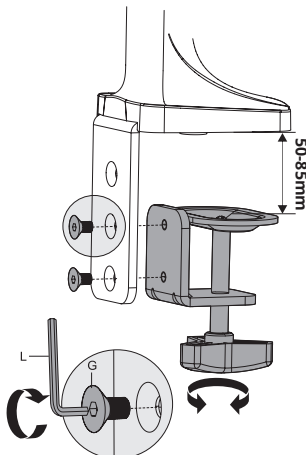

Figure 3B
- b) Desktops of 50mm-85mm thickness: Select the two lower mounting holes and secure them using Bolt (G) with Allen Key (L) turning clockwise until tight, see Figure 3B.